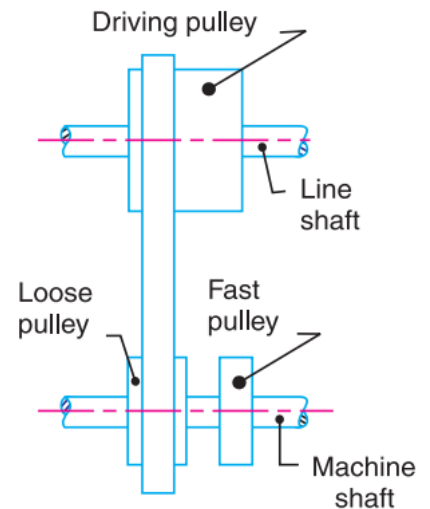

Fig. 11.9. Fast and loose pulley drive.
7. Fast and loose pulley drive. A fast and loose pulley drive, as shown in Fig. 11.9, is used when the driven or machine shaft is to be started or stopped whenever desired without interfering with the driving shaft. A pulley which is keyed to the machine shaft is called fast pulley and runs at the same speed as that of machine shaft. A loose pulley runs freely over the machine shaft and is incapable of transmitting any power. When the driven shaft is required to be stopped, the belt is pushed on to the loose pulley by means of sliding bar having belt forks.